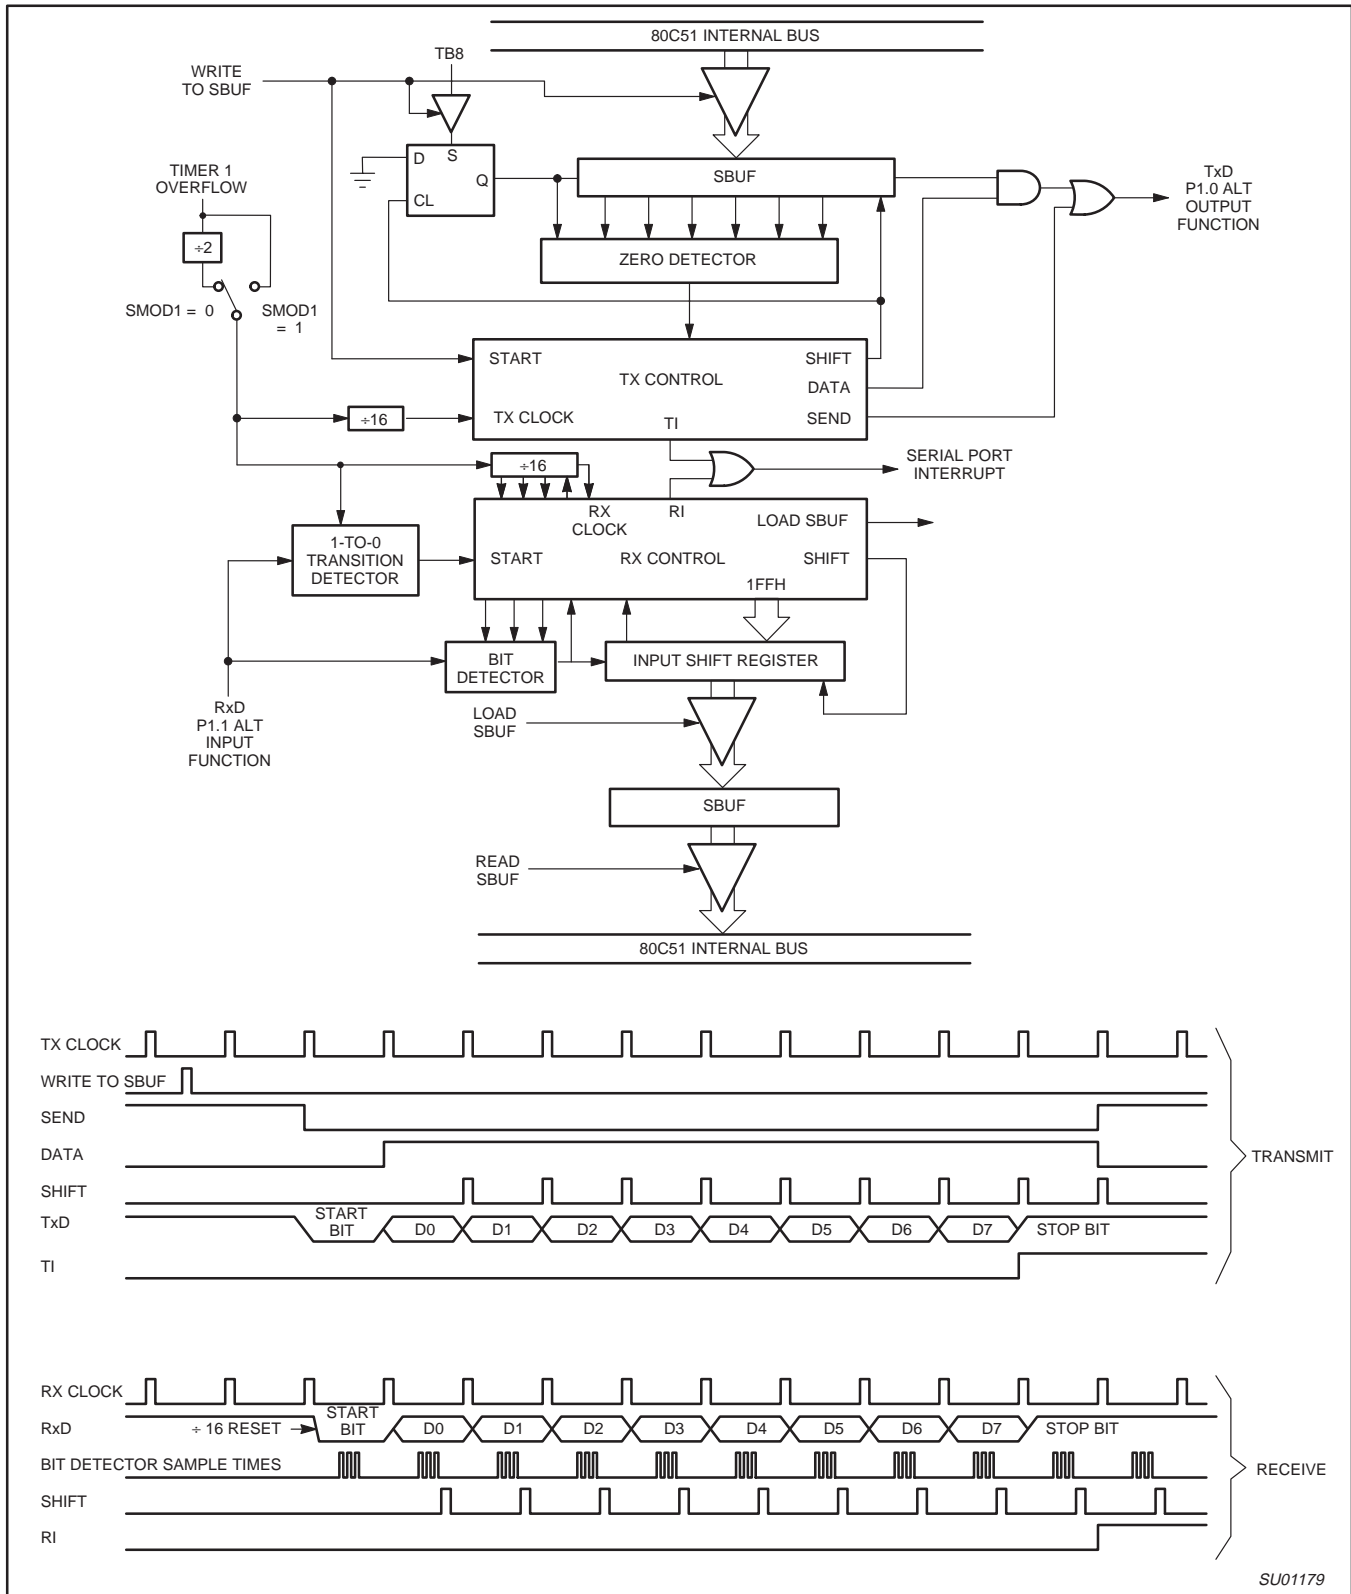

Figure 29. Serial Port Mode 1
Ten bits are transmitted (through TxD), or received (through RxD): a start bit (0), 8 data bits (LSB first), and a stop bit (1). On receive, the stop bit goes into RB8 in SCON. In the 87LPC764 the baud rate is determined by the Timer 1 overflow rate. Figure 29 shows a simplified functional diagram of the serial port in Mode 1, and associated timings for transmit receive.